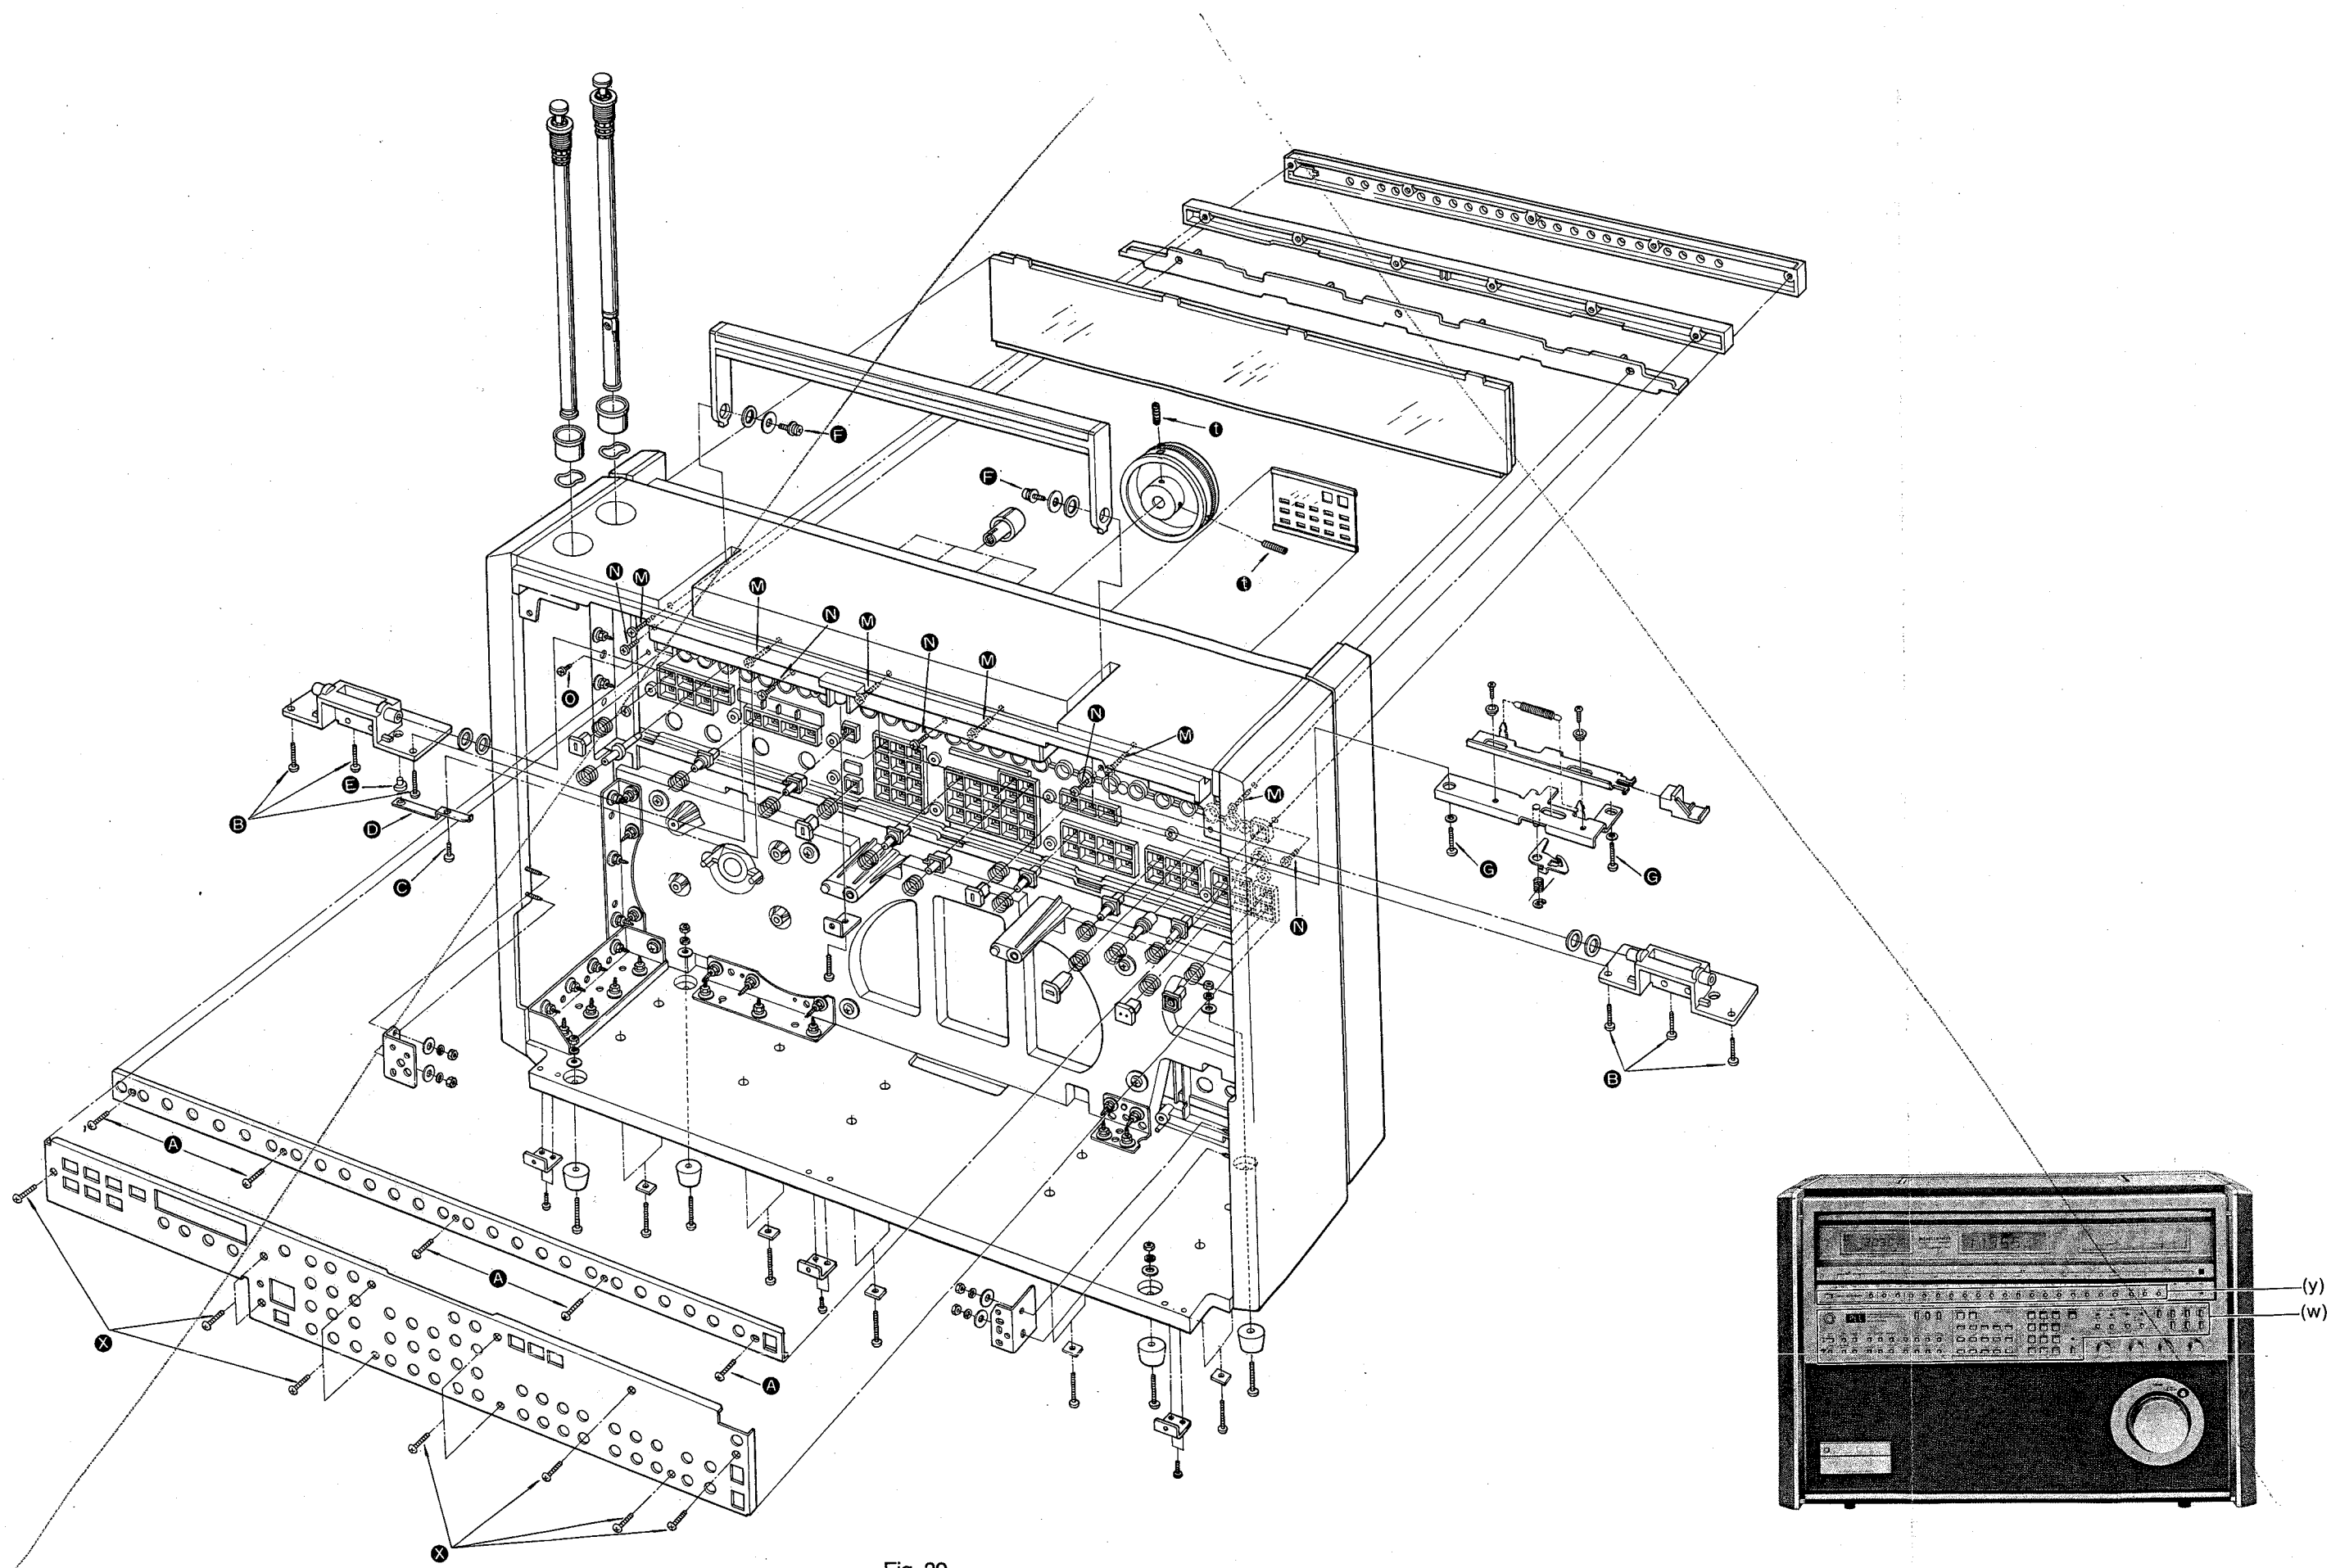

Fig. 29
*7. When taking it apart refer to Fig. 29.